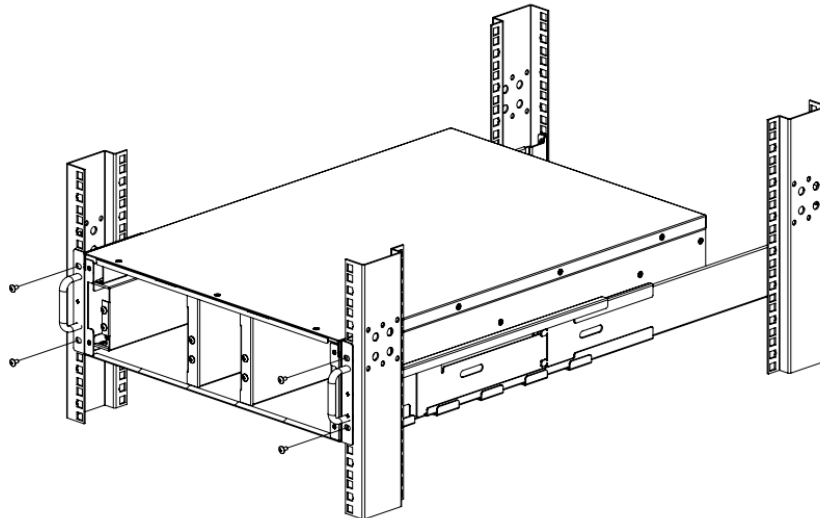

Figure 34: Secure the Mounting Brackets to the Rack
26. Align the mounting brackets with the screw holes on the rack and secure the EBP with the supplied 4x Phillips Hex Head M5 screws (see Figure 34).